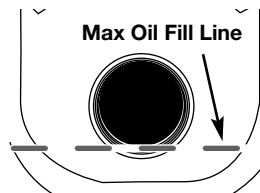

Fig. 22
6. Look into the oil fill hole (use a flashlight if needed). The oil should be just touching the innermost thread (Fig. 22).
7. If the oil level is not touching the innermost thread on the oil fill hole, add a small amount of oil to the oil fill hole and recheck (Fig. 22). Repeat this procedure until the oil level reaches the innermost thread on the oil fill hole.